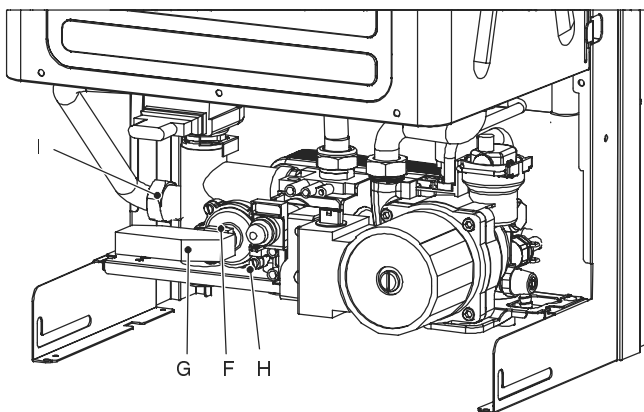

Fig. 8.5
- 4 Remove the fixing spring *F* (Fig. 8.5) and remove the primary circuit flow switch *G*.